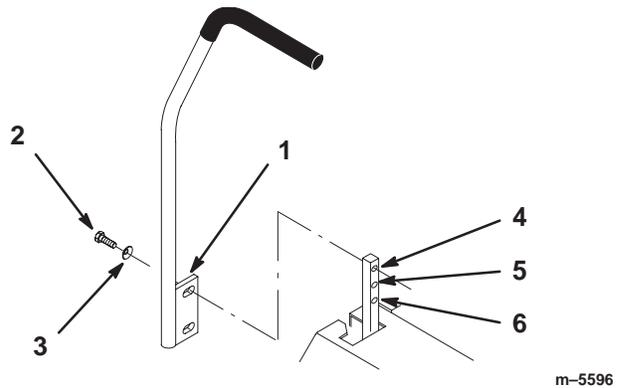

Figure 4
1. Remove the 4 bolts (3/8 x 1 in.) and 4 spring washers (3/8 in.) which attach the motion control levers to the control arm shafts for shipping (Fig. 4).
2. Place the levers (with the mounting plate toward the rear) on the outside of the control arm shaft and secure them with 4 bolts (3/8 x 1 in.) and 4 spring washers (3/8 in.) (Fig. 4).
4. Align the front/rear position of the levers, with each other, in the neutral position. Loosen the hardware and adjust by sliding/tilting the lever(s) forward or backward until they are properly aligned (Fig. 4).